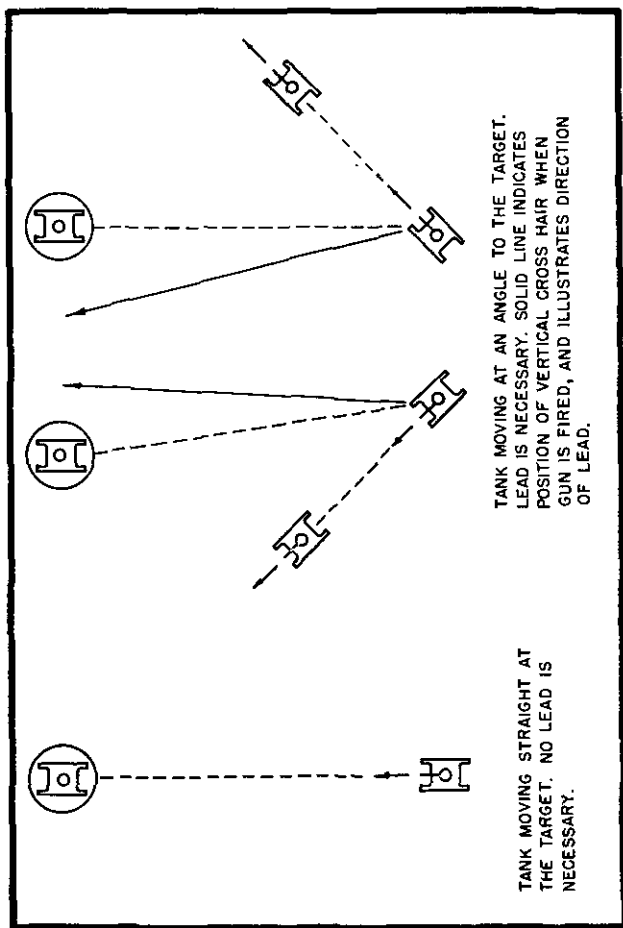

Figure 29.—Firing while moving.
(2) *Firing to the side.*—When firing over the corner of the tank or to the side, use a lead to compensate for the fact that the tank is moving at an angle to the target (fig. 29). Remember that the direction of the lead is opposite from that used in firing from a stationary tank at a moving target. When firing from a tank moving to the right, the lead is established on the left side of the target. In other words, when firing at a stationary target from a moving tank, establish the lead on the side of the target opposite the direction in which the tank is moving.